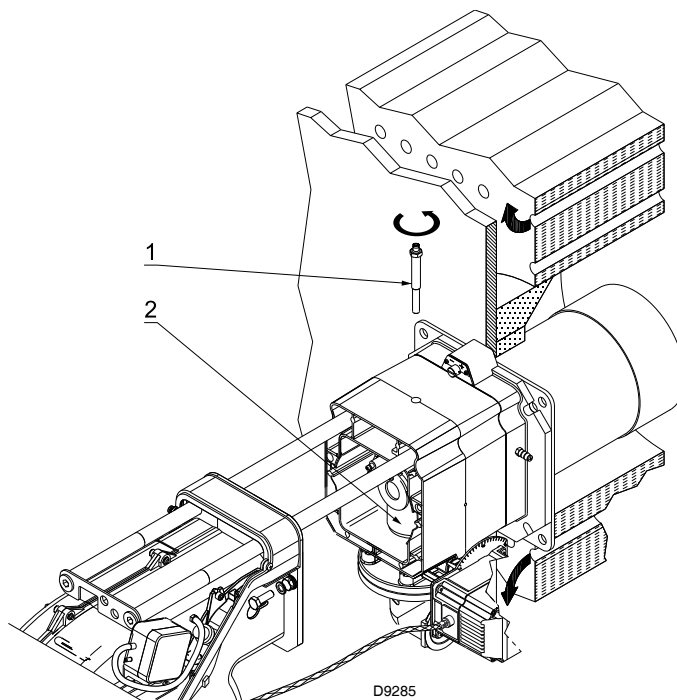

Fig. 13
- remove the screw 1) (Fig. 13) and extract the inner part 2) of the head;
At this point of the installation, the combustion head is fixed to the boiler as shown in Fig. 13.